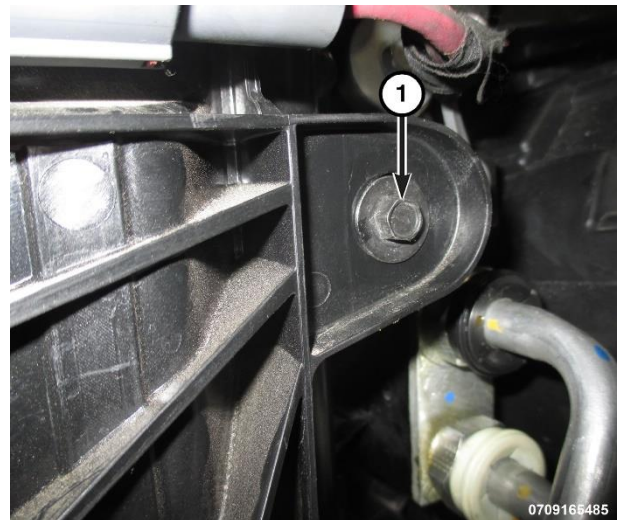

Figure 179 – Right Cooling Fan Bolt
- 9. Remove the right cooling fan bolt (1) (Figure 179).